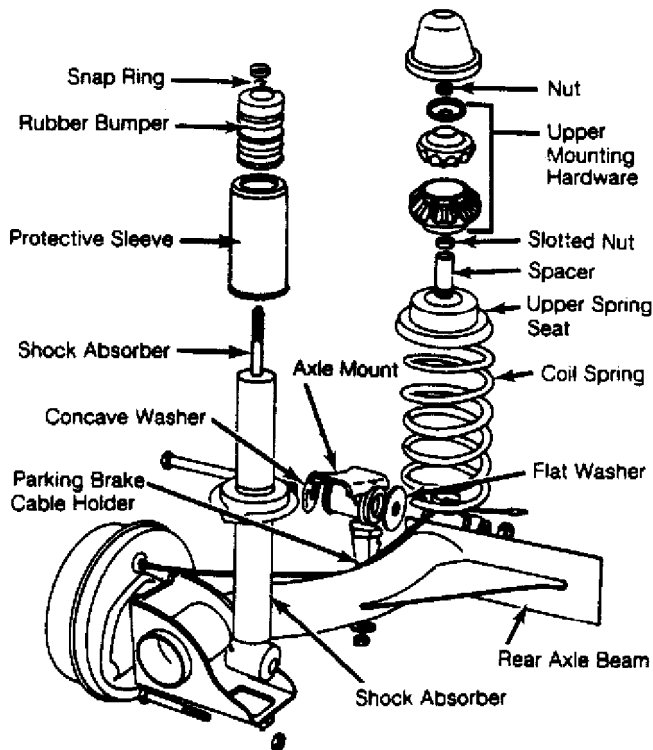

Fig. 1: Identifying Rear Suspension Components (Typical)
Suspension uses control arms and axle beam for stabilization. Control arms and axle beam are combined as one unit. Brake drums or discs rotate on stub axles bolted to control arms. See Fig. 1.
2) Hold piston rod. Remove strut/shock retaining nut and related components. See Fig. 1. Remove slotted nut (some models). Remove spacer and coil spring. If coil spring is to be replaced, ensure paint stripe color on replacement spring matches original spring color stripe.